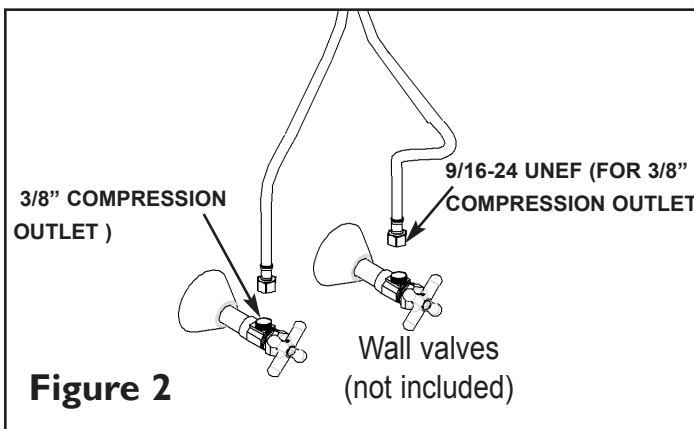

Figure 2
3. Attach hot/cold spout supply directly to valves in the wall. See Fig. 2